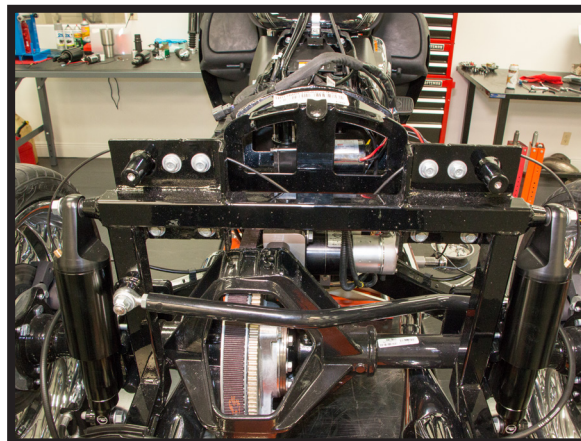

FIGURE 34
14. ROUTE THE AIR LINES FROM THE SHOCKS TO THE AIR MANIFOLD, TRIM THEN REPEAT STEP #13 TO PUT THE VOSS FITTINGS INTO THE MANIFOLD. (FIGURES 34)